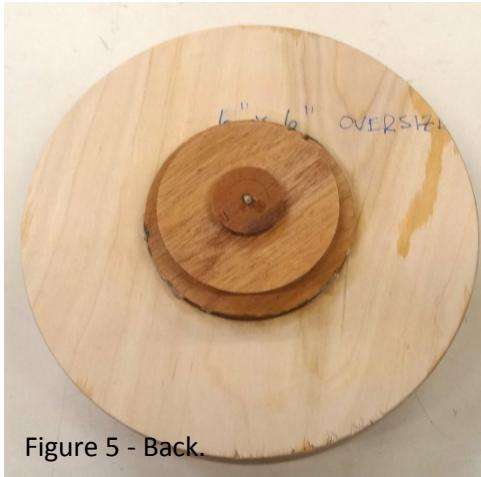

Figure 5 - Back.
4. Cut out a round glue block and drill a small hole through the center, making sure the hole is perpendicular. Select a good hard wood for the glue block so it will stand up to multiple mountings in your chuck. Mount between centers using the center hole and turn a tenon on one side to fit your chuck. Mount the tenon in the chuck, flatten the glue face and mark jaw #1 so you can remount it the same way each time. Cut out a second 6" diameter circle from $\frac{3}{4}$ " plywood using a bandsaw or jigsaw. Drill a small hole through the center to mark the center on both sides. Use a drill press or make sure the hole is perfectly perpendicular. With the glue block mounted in the chuck, glue the 6" plywood circle to the glue block using the tailstock live center in the small hole to position it and apply pressure. Next, glue the previously prepared 6" ring with the 4" offset hole to the existing 6" circle, aligning the edges as closely as possible. Use a piece of scrap wood and the tailstock to hold it in place while it dries. When dry, apply thin CA to the outer edges of both 6" circles and true them up. You should now have an assembly that is approximately 6" in diameter and approximately $1\frac{1}{2}$ " thick with a chuck tenon on one side and a 4" diameter hole $\frac{3}{4}$ " deep offset $\frac{1}{2}$ " on the other side. See Figures 5 and 6. **This is the offset assembly.**